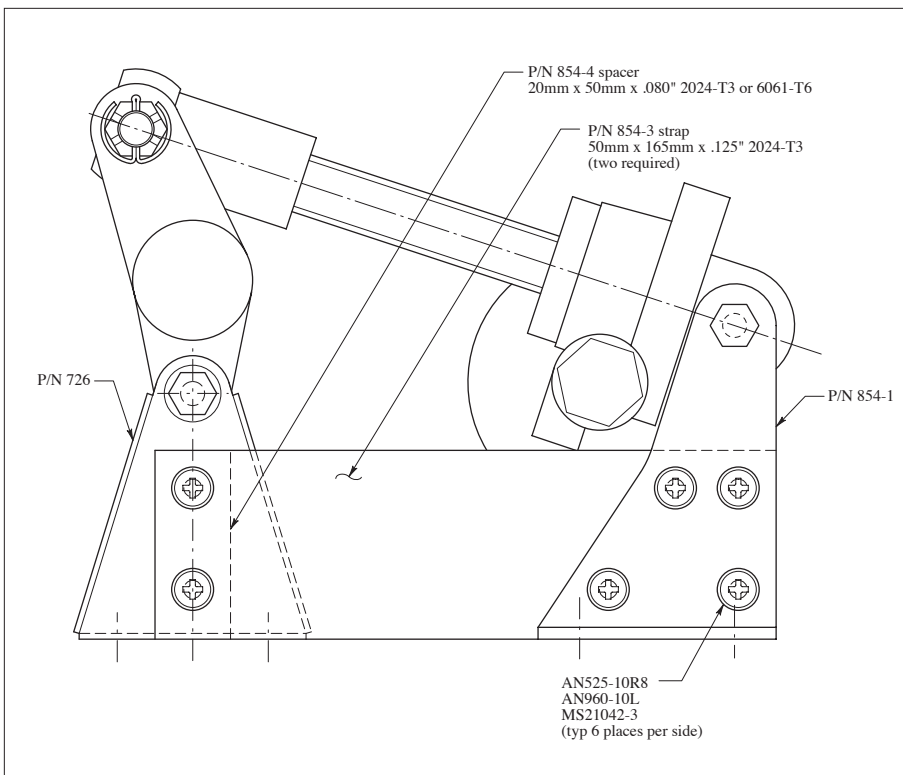

Figure 1 (for Revision B4g)
(1) Detail S. At connection of P/N 713A to P/N 743, change AN24-17 to AN174-11 and change AN320-4 to AN310-4.
(2) Detail S. At connection of P/N 713A to P/N 709-1, change AN24-17 to AN174-11 and change AN320-4 to AN310-4.
(3) Detail W-W. Change AN23-31 to AN173-20 and change AN320-3 to AN310-3.
(4) Detail U. At connection of P/N 853 to P/N 854-1 & -2, change AN24-25 to AN174-17, and change AN320-4 to AN310-4.
(5) Detail U. At installation of flap torque tube on P/N 726, change AN24-18 to AN174-12, and change AN320-4 to AN310-4.
(6) Detail U. Show installation of braces as shown in Figure 1.